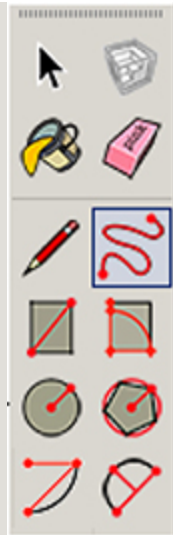
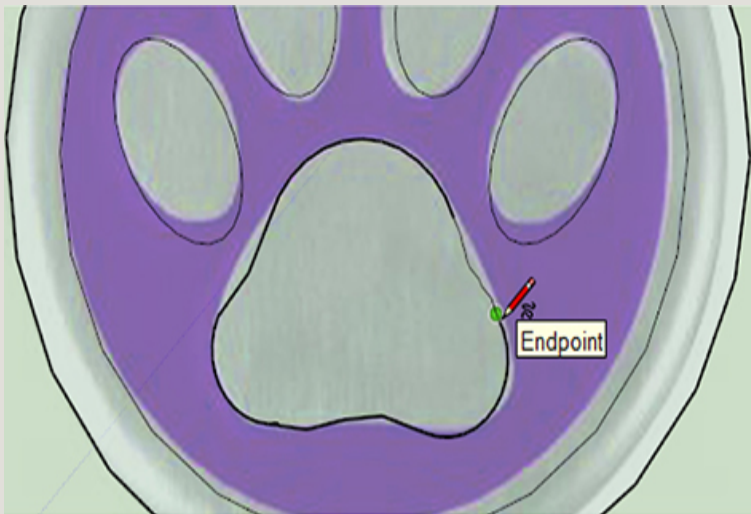

Figure 3-62 The Freehand tool.
Figure 3-63 Drag the Freehand tool to make freehand lines.
- e. Trace the big pad's sides. Activate the Freehand tool (Figure 3-62). Click it on an arc endpoint (watch for the inference), and hold the cursor down to drag it to another endpoint (Figure 3-63).